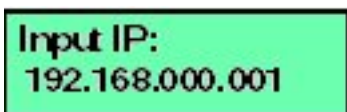

Figure 3.10. LCD Panel (LAN 1 IP Address)
- Press **ENTER** and the following message displays (Figure 3-10) with the current LAN1 IP address. (The default is 192.168.0.1).